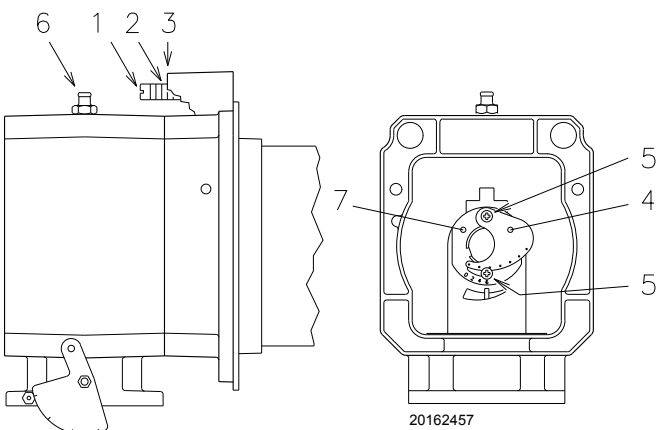
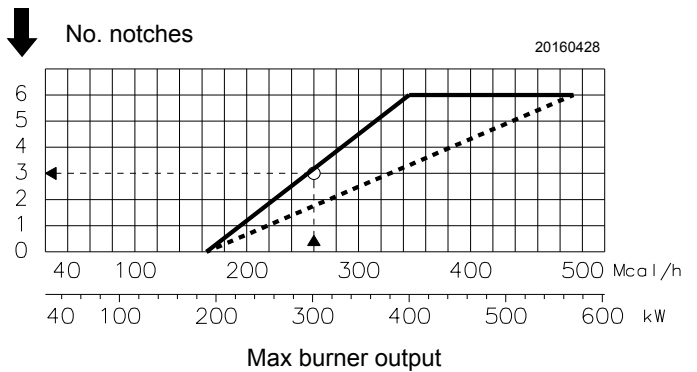
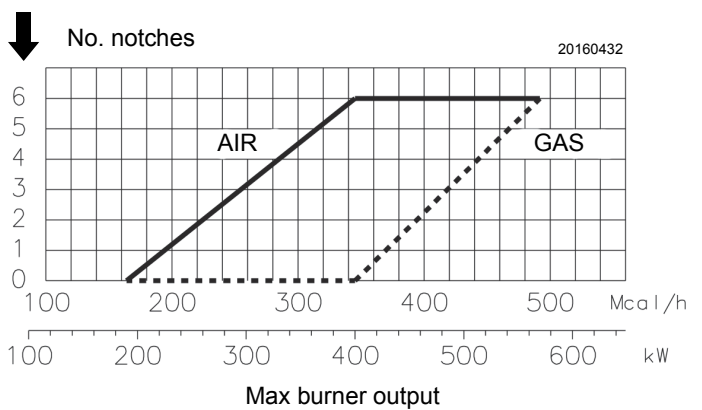

Fig. 14
Fig. 15
Fig. 16
Installation operations are now at the stage where the blast tube and sleeve are secured to the boiler as shown in Fig. 14.
Air adjustment (Fig. 14 - Fig. 15)
From diagram (Fig. 15) you can see that, for the MAX output of 300 kW, the air should be adjusted at notch 3, subtracted from the value of the pressure in the chamber.
If the pressure in the chamber is equal to 0 mbar, the air is adjusted with reference to the broken line of the diagram Fig. 15.
- Rotate the central air 4) and gas 7) ring nuts (Fig. 14) until notch shown on the diagrams Fig. 15 and Fig. 16.
- In order to carry out this operation, unscrew the screws 5)(Fig. 14) and rotate the ring nuts 4) and 7 (Fig. 14).
- At the end, tighten the screws 5)(Fig. 14) again.